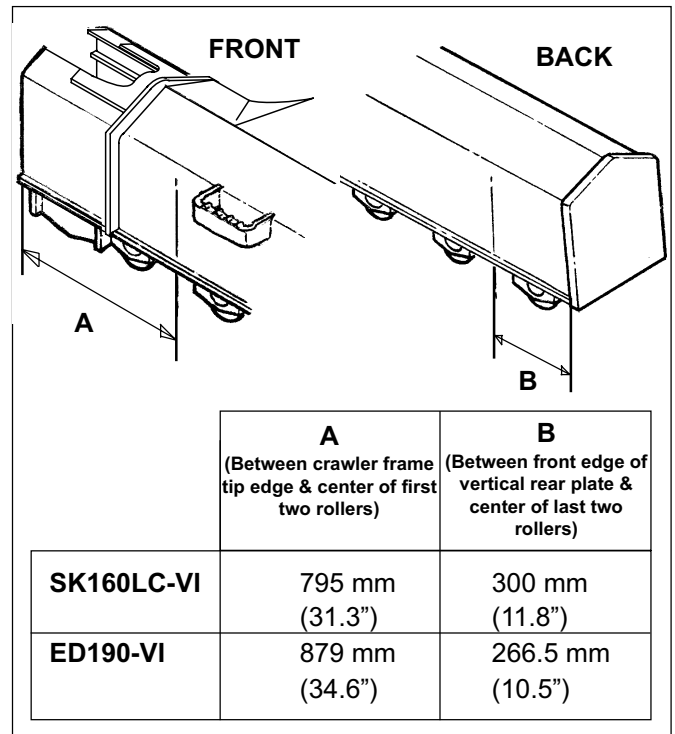

FIGURE 5.5B
- Locate lifting locations at the front and rear of each crawler frame. See Figure 5.5B.